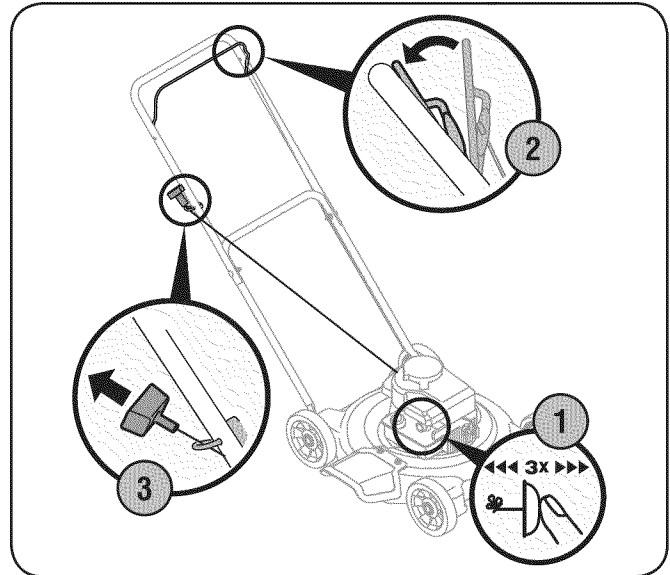

Figure 5-1
1. When starting the engine for the first time, push primer (if equipped) five times. For all future starts, push the primer three times. Wait about two seconds between each push. See Fig. 5-1. Do not prime to restart a warm engine.
3. Holding these two handles together firmly, grasp recoil starter handle and pull rope out with a rapid, continuous, full arm stroke. See Figure 5-1. Keeping a firm grip on the starter handle, let the rope rewind slowly. Repeat until engine cranks. Let the rope rewind each time slowly.